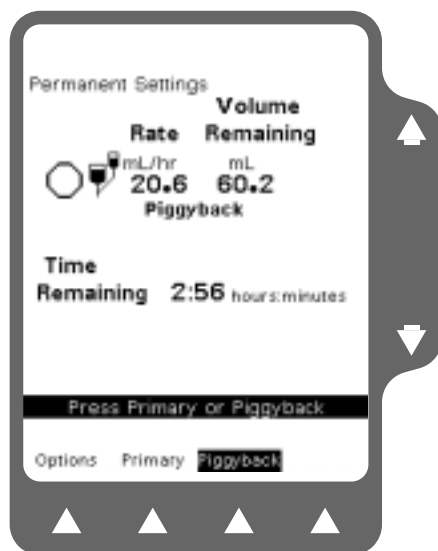

Figure 3-24 Piggyback Stopped
2. Press the **STOP** key on the pump module (Figure 3-24).